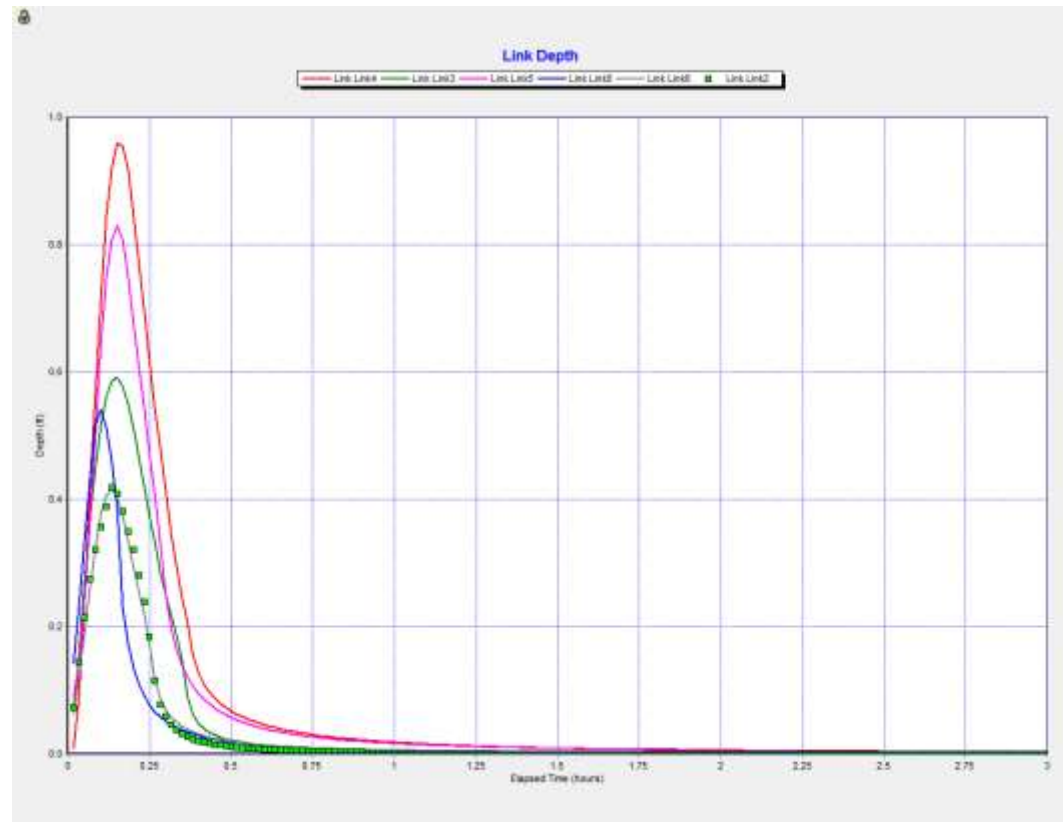

Figure 10 Plot of Depth vs. Time for several links in the model
7. The plot should look similar to Figure 10.